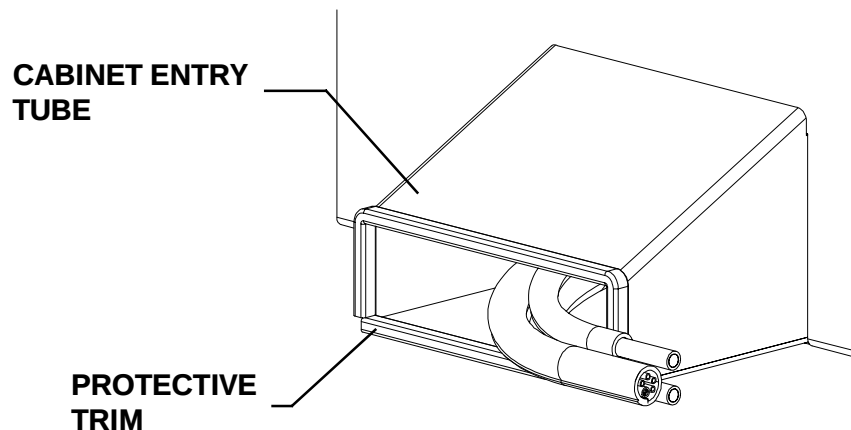

Figure 1-10
Step 22. Install the Edge Guard around the rear opening of the cabinet Entry Tube (Refer to Figure 1-10).